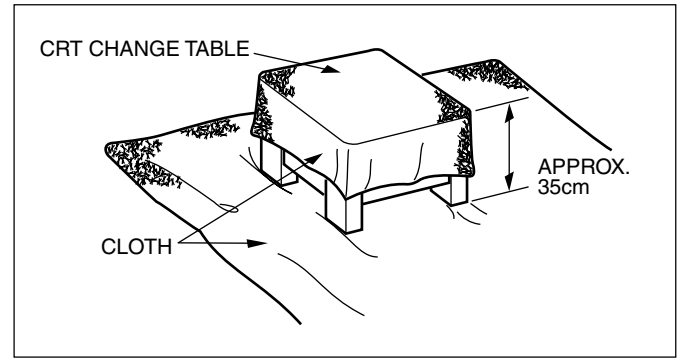

Fig. 2
- 1. Putting the CRT change table on soft cloth, the CRT change table should also be covered with such soft cloth (shown in Fig. 2).
(1) Power off Switch off the power and disconnect the power cord from the outlet.
(2) Replace the memory IC Initial value must be entered into the new IC.
(3) Power on Connect the power cord to the outlet and switch on the power.
(4) System constant check and setting <ol style="list-style-type: none"> Press SLEEP TIMER key and, while the indication of "SLEEP TIMER 0 MIN." is being displayed, press DISPLAY key and VIDEO STATUS key on the remote control unit simultaneously. The SERVICE MENU screen of Fig.1 is displayed. While the SERVICE MENU is displayed, again simultaneously press the DISPLAY and VIDEO STATUS keys to display the Fig.2 SYSTEM CONSTANT screen. Refer to the SYSTEM CONSTANT table and check the setting items. Where these differ, select the setting item with the MENU UP/DOWN key and adjust the setting with the MENU LEFT/RIGHT keys. (The letters of the selected item are displayed in yellow.) After adjusting, release the MENU LEFT/RIGHT key to store the setting value. Press the EXIT key twice to return the normal screen. 	 <p>[AV-36F702]</p>  <p>[AV-36F802]</p> <p>Fig.1</p>  <p>Fig.2</p>
(5) Receive channel setting Refer to the OPERATING INSTRUCTIONS(USER'S GUIDE) and set the receive channels (Channels Preset) as described.
(6) User settings Check the user setting items according to Table 2. Where these do not agree, refer to the OPERATING INSTRUCTIONS (USER'S GUIDE) and set the items as described.